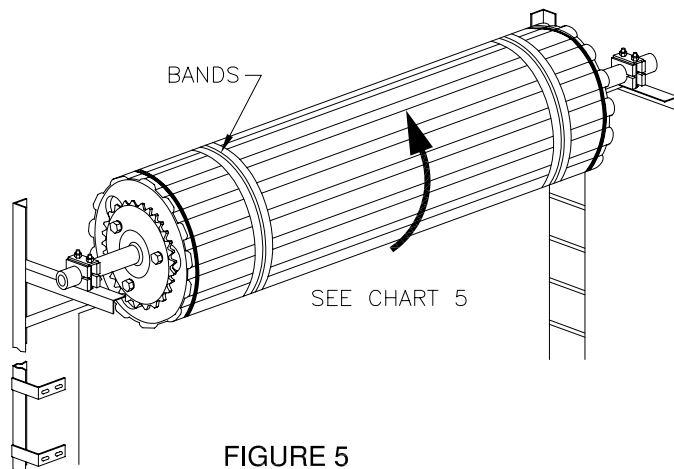

FIGURE 5
- 5A APPLY TENSION TO SPRINGS BY ROTATING DOOR (SEE CHART 5) REQUIRED TURNS IN A FORWARD DIRECTION (SEE FIGURE 5). BOTTOM ANGLE SHOULD BE POSITIONED AT 3 O'CLOCK.